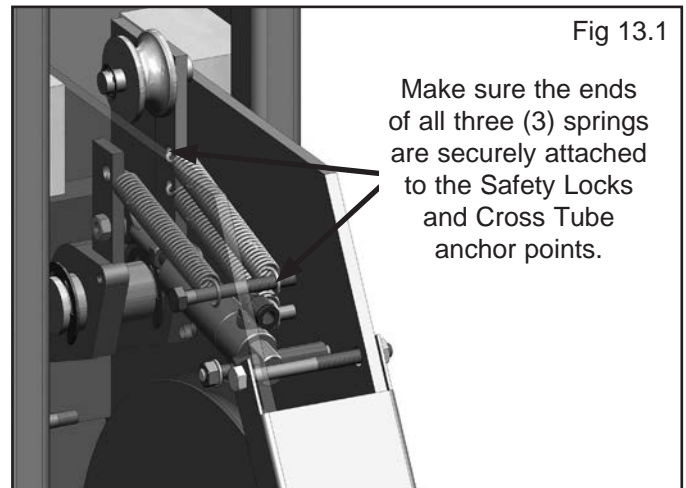

Fig 13.1
1. Inspect the ends of ALL SAFETY LOCK SPRINGS as shown. Make sure the spring ends are secure at both ends. **DO NOT ATTEMPT TO RAISE THE LIFT UNTIL THE SLACK SAFETY SPRINGS ARE ATTACHED AND THE ROLLERS ARE PULLED CLEAR FROM THE LADDER.** (See Fig. 13.1)